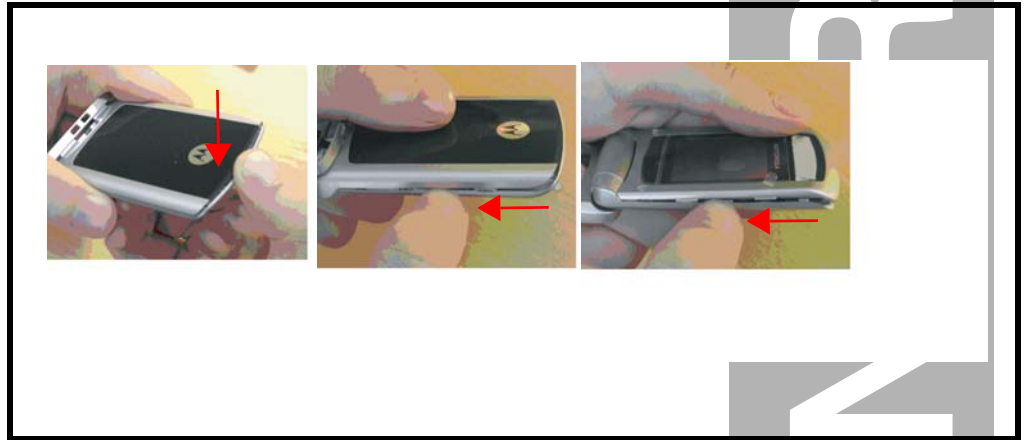

Figure 30. Disassembling Case-A and Case-B
2. Release the hook between Case-A and Case-B by fingernail or tweezers as shown in Figure 30.